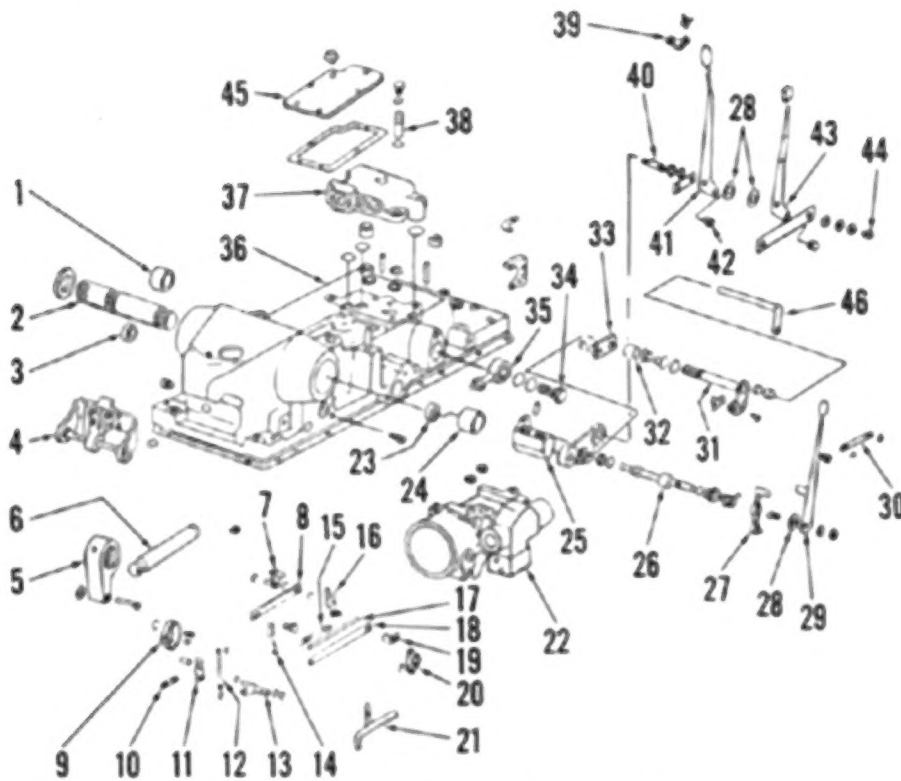

Fig. 181 - Exploded view of hydraulic lift control linkage.
Remove control rods (1) and load control shaft (46—Fig. 181) with bearings. Remove three cap screws holding control lever support to lift housing. Disconnect linkage from flow control arm (27) and remove position control shaft (31). Remove flow control lever (29) and friction disc (28), drive out roll pin and remove pivot bolt. Remove flow control arm (27) with return spring. Remove flow control valve plug and spool (26).
**140. REMOVE AND REINSTALL.** To remove the rockshaft (2—Fig. 181) first remove lift housing as outlined in paragraph 136 and lift cylinder and valve as in paragraph 138. Remove set screws from actuating hub (9—Fig. 181) and rockshaft bellcrank (5). Remove the right lift arm and slide rockshaft from right to left out of housing, bellcrank and actuating hub. Remove actuating hub key as soon as it is exposed. If actuating hub sticks on rockshaft, pry against it with a heavy screwdriver so linkage will not be damaged.